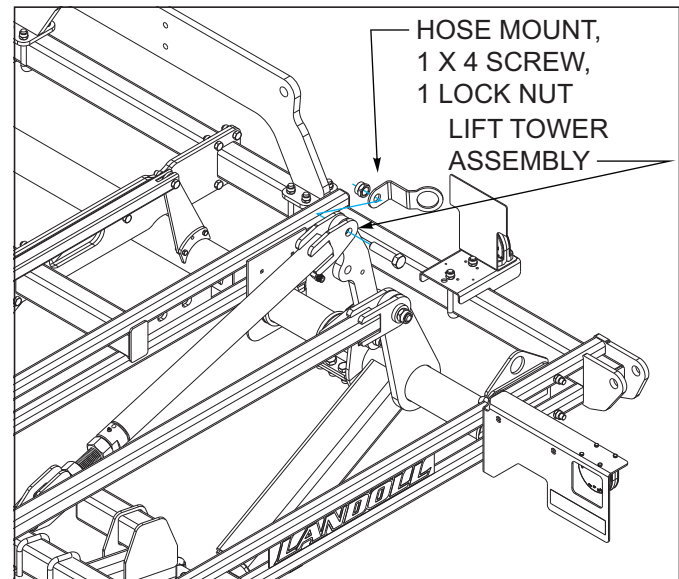

Figure 3-9: Hose Mount Installation
7. Attach hose mounts to lift tower assemblies with 1 x 4 screws and 1 lock nuts *See Figure 3-9*.